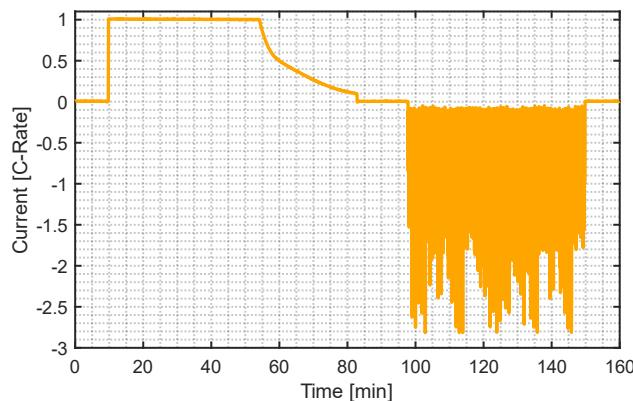

Figure 2: CC/CV Charge and Dynamic Discharge Current Profile
The next scenarios consist of charging a 10S1P(11) battery using the typical CC/CV method, followed by a highly dynamic discharge at different ambient temperatures. The charge constant current rate is 1C, while the charge termination current in this example is 0.1C. The highly dynamic discharge corresponds to a typical e-bike's current profile, with an average current of 1C and maximum peak currents up to 2.8C. Figure 2 shows the current profile of the complete cycle at 25°C.